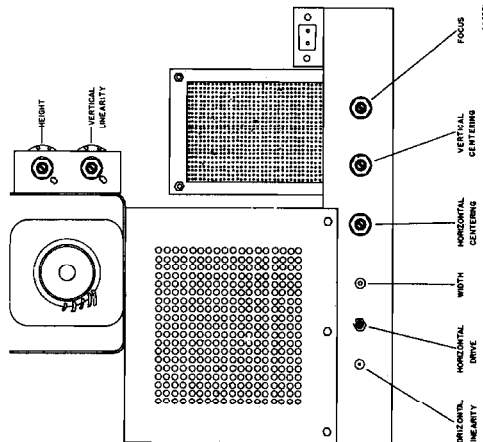

Fig. 2. Rear chassis view, location of non-operating controls.
5. Check the i-f amplifier frequency response by tuning the signal generator from 21 mc through 26.23 mc and observing the change in d-c voltage at the electronic voltmeter. If the signal generator output is set for an electronic voltmeter reading of 1.5 volts at the peak i-f amplifier response, the d-c voltage should not drop below one volt between the two peaks normally obtained with this i-f amplifier. If the response is unsatisfactory, repeat the procedure or try slight modifications of the recommended settings to obtain the desired response. Avoid resonating the coils with the iron core at the bottom end of the coil form. (Adjustment screw near limit of its travel). Check the two carrier i-f responses, 21.75 mc and 26.25 mc. The 21.75 mc response will be approximately 20 db below the peak response (approximately 0.15 volt) and the 26.25 mc response will fall approximately 6 db below the peak. (Approximate 0.05 volt). See Fig. 2.